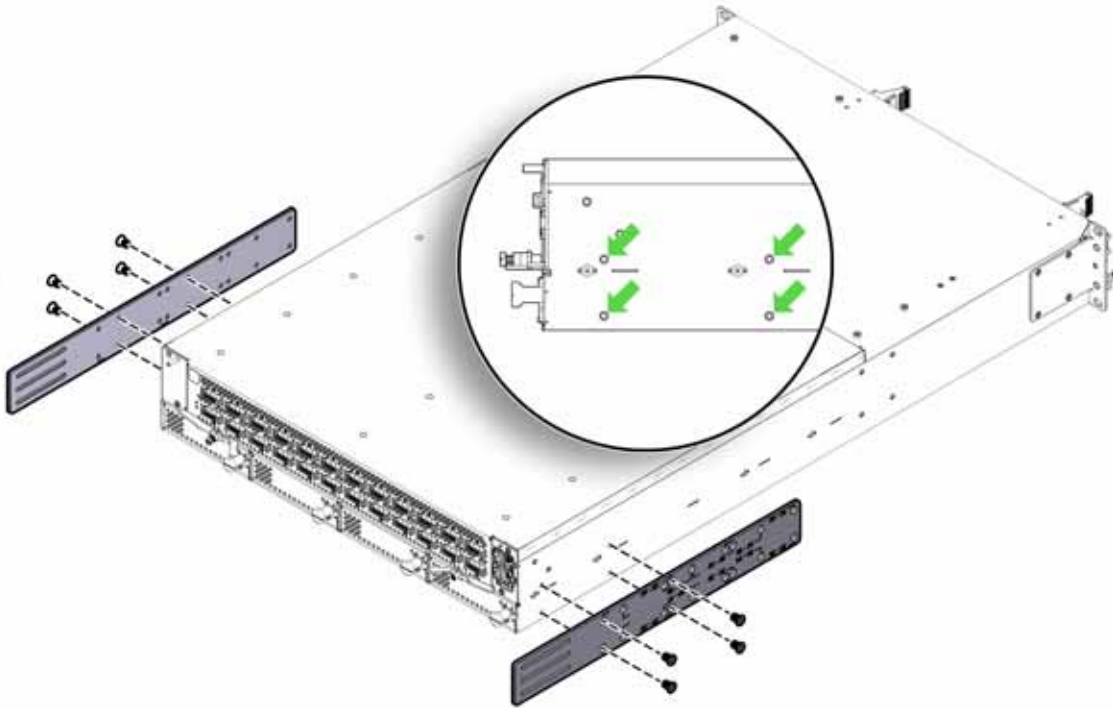

Figure 10 Installing the Rack Depth Measures
- Step 7** When the side panel screw holes are aligned with the screw holes in the Fabric Director chassis, attach the rack-depth measures (4 screws per side panel) to the Fabric Director. Figure 10 on page 26 shows installing these components.
Figure 10 on page 26 shows installing the rack-depth measures for one depth. Your rack depth might differ, so the rack-depth measures might need to slide forward or backward depending on the depth of your rack.